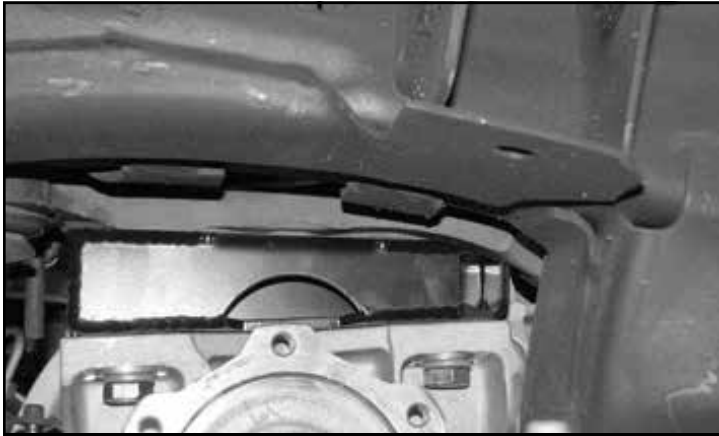

FIGURE 18
18. Locate the FT20625 driver side diff mount and the FT20626 passenger side diff mount. Starting on the driver side, remount the diff with two M12-1.75 x 70mm bolts. Torque to 100 ft-lbs **SEE FIGURE 18**